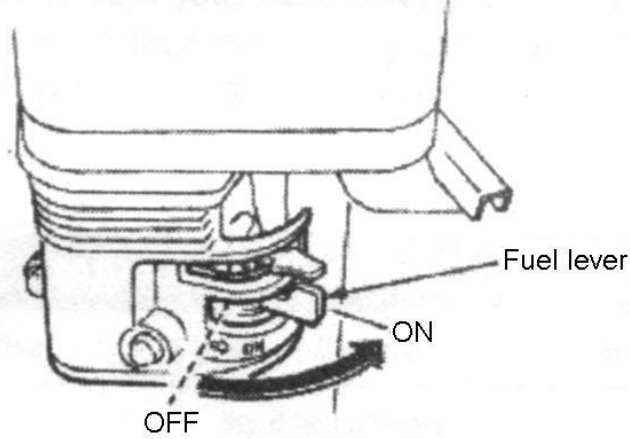

Figure 9. Fuel Valve Lever
1. Place the ***fuel valve lever*** (Figure 9) in the “ON” position.